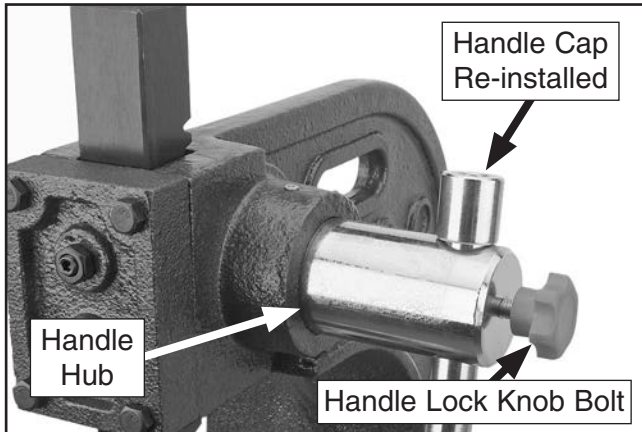

Figure 7. Sliding handle installed.
2. Insert handle through handle hub and re-install cap, as shown in **Figure 7**.
3. Thread handle lock knob bolt into hub, as shown in **Figure 7**. When tightened, this knob bolt secures handle in position relative to hub.